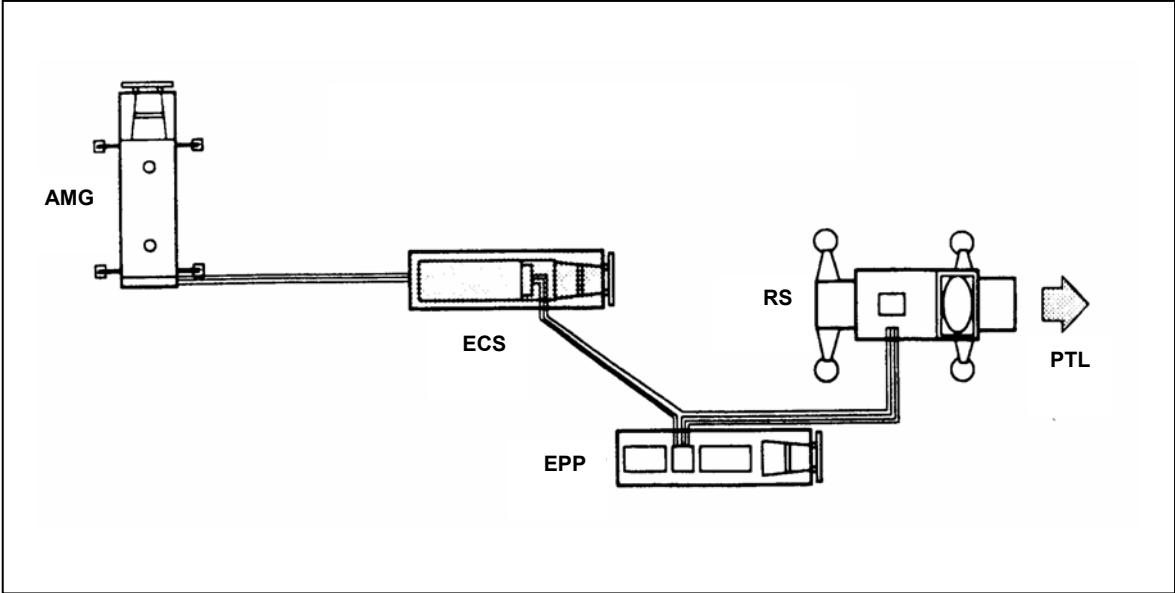

Figure 2-3. RS emplacement
**ILLUSTRATIONS:** Figures 2-3 through 2-6.
- (1) Radar set
- (2) Telephone set, sound-powered. TA-1/PT.
- (3) Screw driver, flat tip, 3/8 inches wide, 8 inches long.
- (4) EPP, ECS, and AMG.
- (5) Individual weapons, NBC protective clothing, and equipment.
(1) Show the crew members how the RS should be emplaced using a diagram, Figures 2-3 through 2-6, a sand table, or a simple sketch in the dirt.
(2) Tell the crew members what their duties are in the drill.
(3) Read the performance measures of the drill to the crew members.
(4) Have crew members explain their performance measures to ensure they understand them.